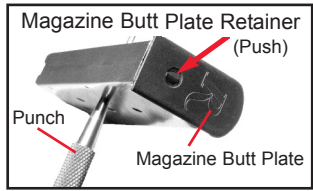

Figure 23
4. To control the spring during disassembly, insert a punch into one of the Magazine Body's viewing holes. See Figure 23.